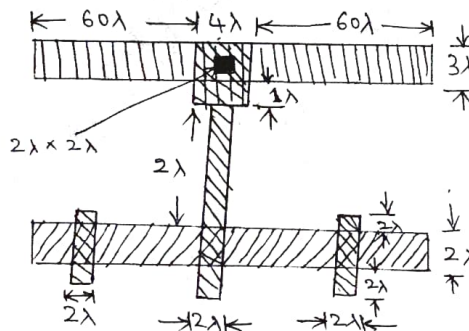

Fig.Q4(b)
b. Find the C_{in} for the layout shown in Fig.Q4(b).